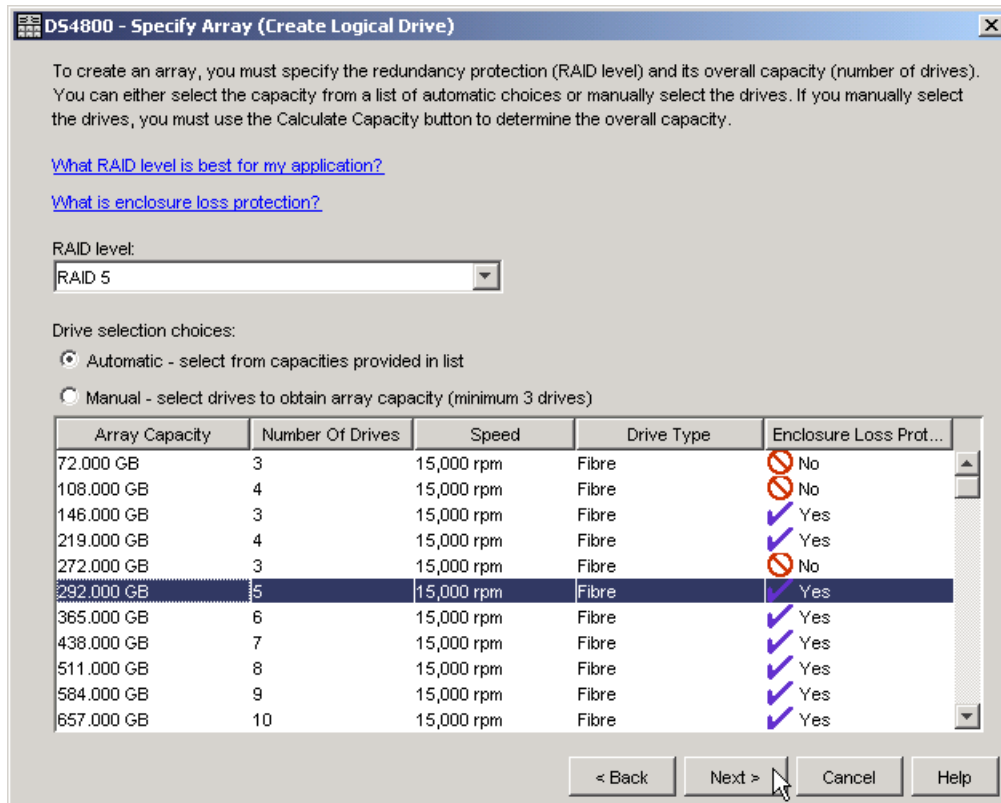

Figure 3-23 Enclosure loss protection with Automatic configuration
2. You have two choices for specifying the array details: automatic and manual. The default is the automatic method. In automatic mode, the RAID level is used to create a list of available array sizes. The Storage Manager software selects a combination of available drives which it believes will provide you with the optimal configuration (Figure 3-23).